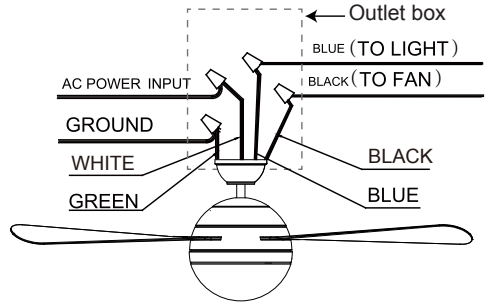

Fig.11
Step 1 Connect the neutral fan (white) wire to the white neutral household wire. (Fig.11).